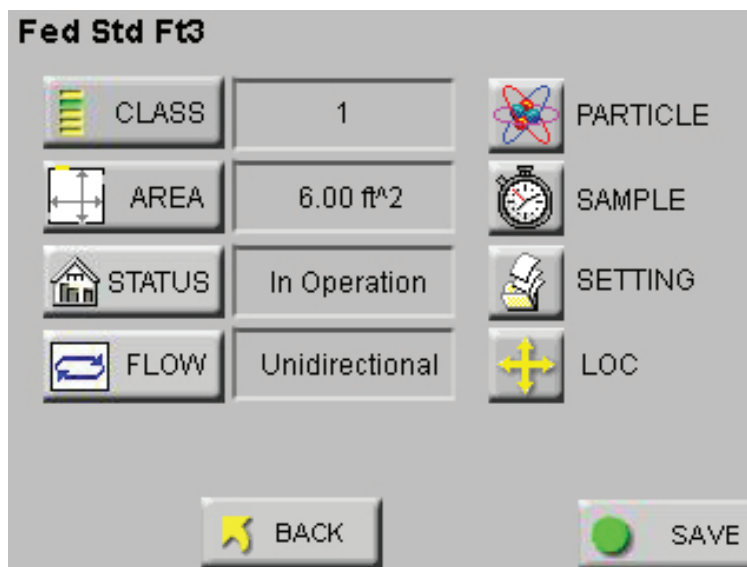

Figure 4-73 Configure the Instrument
- The SETUP screen shown in Figure 4-73 will display the values that were configured in the display fields.